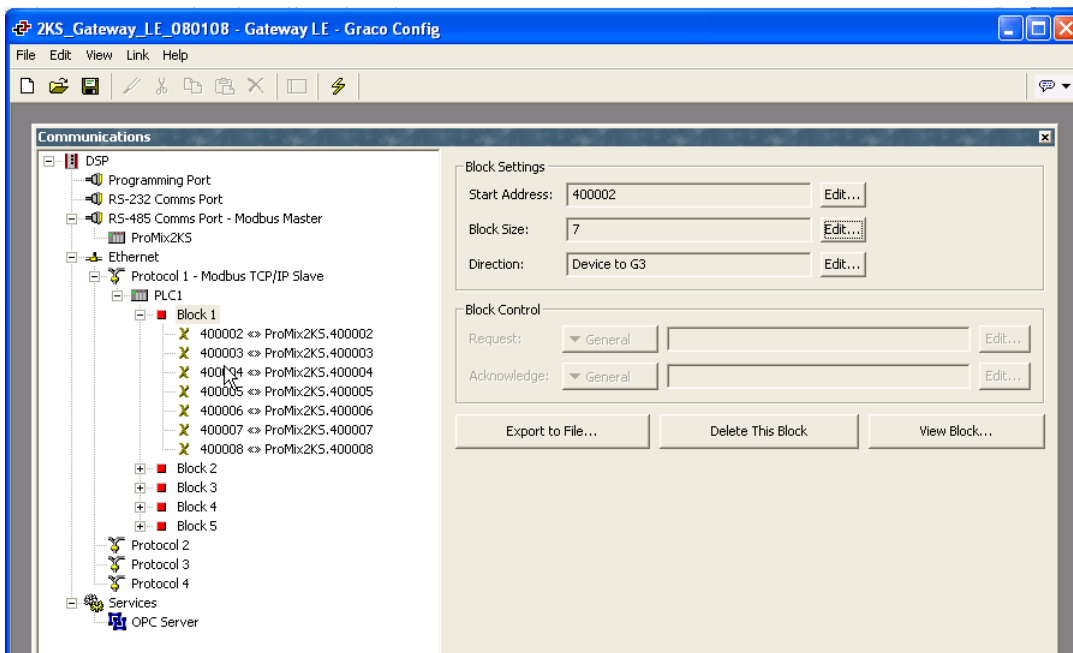

FIG. 24: Block Mapping Data
- See FIG. 24. Click OK. The range of addresses will appear under the appropriate Block on the left side of the window.